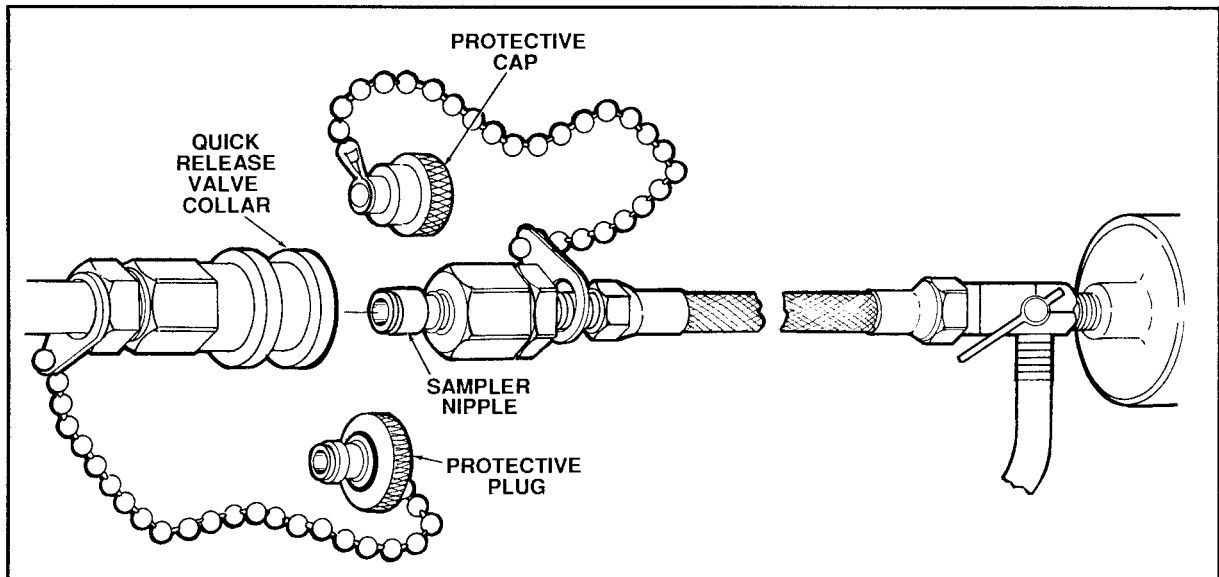

Figure 2.8 Removing Sampler Protective Cap from Quick-Release Valve Plug
- b. Remove the protective cap and plug from the quick-release valve, inlet hose nipple, and sample valve (Figure 2.8).